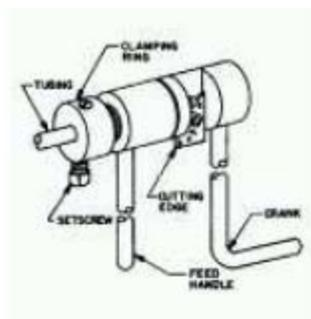

Figure 8-47. Forming Tool for Superpressure Tubing
4. Tighten setscrew to hold forming tool firmly on tubing. See Figure 8-47.